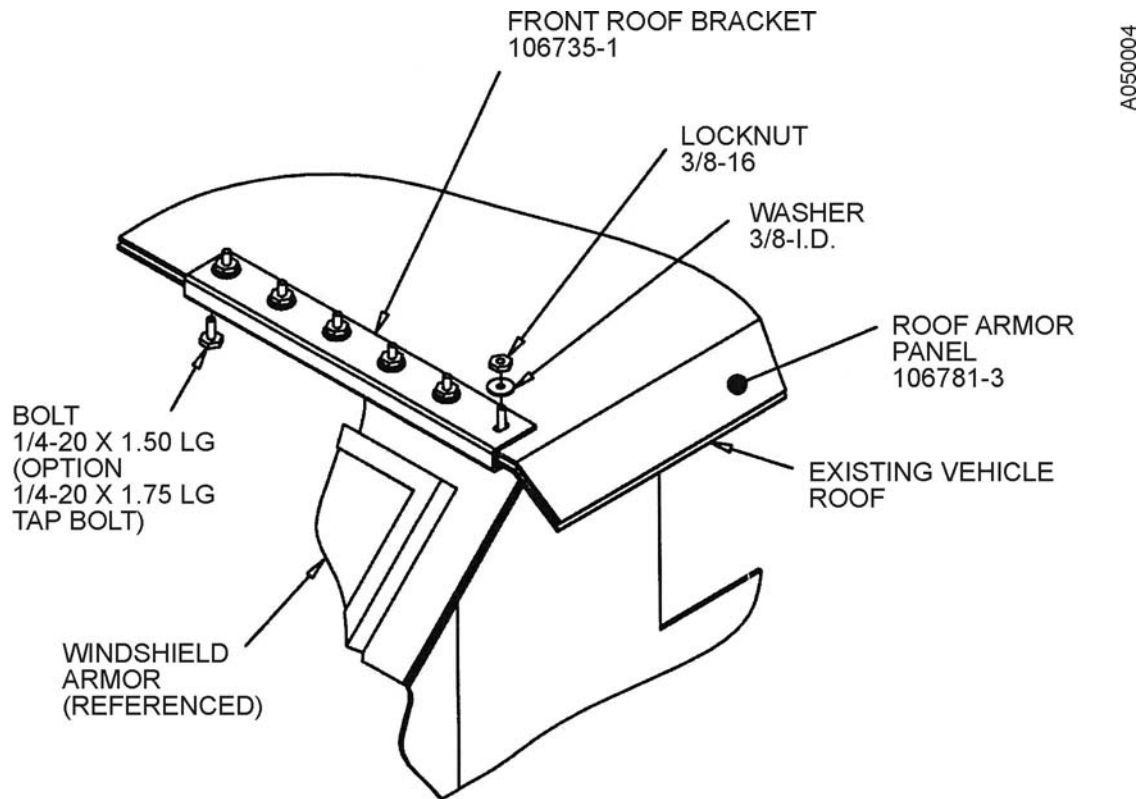

Figure 48. Secure the forward end of the Roof Armor Panel using the attachment hardware.
- w. Install the driver's-side Roof Panel Front Bracket (P/N 106735-1) over the exposed studs of the Front Studplate (P/N 106780-1) (See Figure 48).
- x. Attach the driver's-side Roof Panel Front Bracket (P/N 106735-1) to the Studplate (P/N 106780-1) using six washers (3/8 ID) and six locknuts 3/8 – 16) (see Figure 48). Hand-tighten the locknuts.